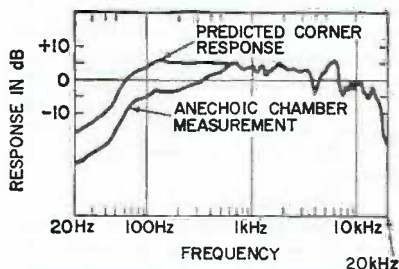
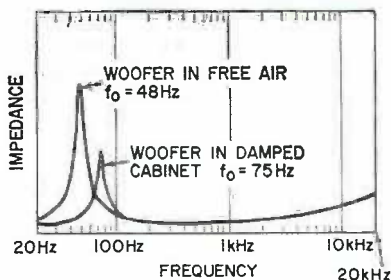

Fig. 4—Anechoic chamber curve is smoothed by placing unit in corner.
Fig. 5—Impedance curves for the woofer in free air and damped in the cabinet.
Fig. 4 shows the response of the system, measured in an anechoic chamber, and the response expected in a corner placement, the recommended location for this system. Placed in a corner, a speaker sees a much reduced solid angle of radiation at low frequencies. Thus, its efficiency is greatly increased. This is especially important for small-size systems. You can experiment with various placements in your home. You will probably be quite surprised at the difference positions can make.
Impedance curves of the woofer in free air and in the damped cabinet are in Fig. 5. You can see that the resonant frequency rose from 48 Hz to 75 Hz, almost an octave. In addition, the height of the peak is substantially reduced. As explained, the acoustic response of a speaker system falls off at about 12 dB per octave below the resonant frequency. From Fig. 5, you can see the resonant frequency is at 75 Hz, and, sure enough, from Fig. 4, the response starts to fall off at just about that point.
If you plan on making several of these, in varying combinations, it may be worth planning an etched circuit (Fig. 5) that can be wired for low pass, high pass or bandpass. Fig. 6 shows a completed circuit for a three-way crossover, using these circuit boards.
**Fig. 5—Copper side of circuit pattern used for crossovers. Actual size of the PC board used is 3 x 6 inches. Draw or enlarge optically. Fig. 6 below shows the completed and wired 3-way crossover. Use table for crossover values.**